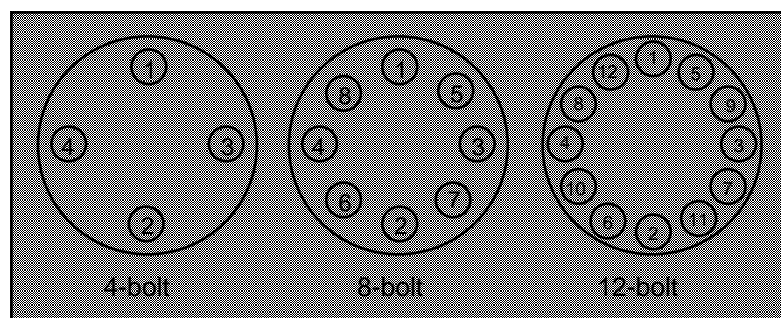

Figure 2-2. Flange Bolt Torquing Sequence
- Place the remaining studs between the pipe flanges. Tighten the nuts in the sequence shown in Figure 2-2. Check for leaks after tightening the flange bolts
3. Install bolts in both process connections. Tighten the nuts in the sequence shown in Figure 2-2. Check for leaks after tightening the flange bolts.